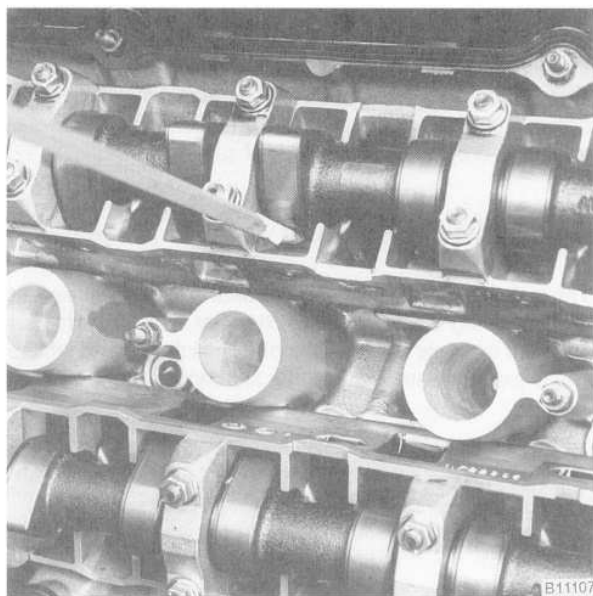

Fig. 37. Hydraulic cam follower being checked. Note that cam lobe is pointing up. (M50 engine shown.)
3. Using a plastic or wooden stick, press down on the top of the follower. See Fig. 37. If there is any noticeable clearance, the lifter is faulty and should be replaced.